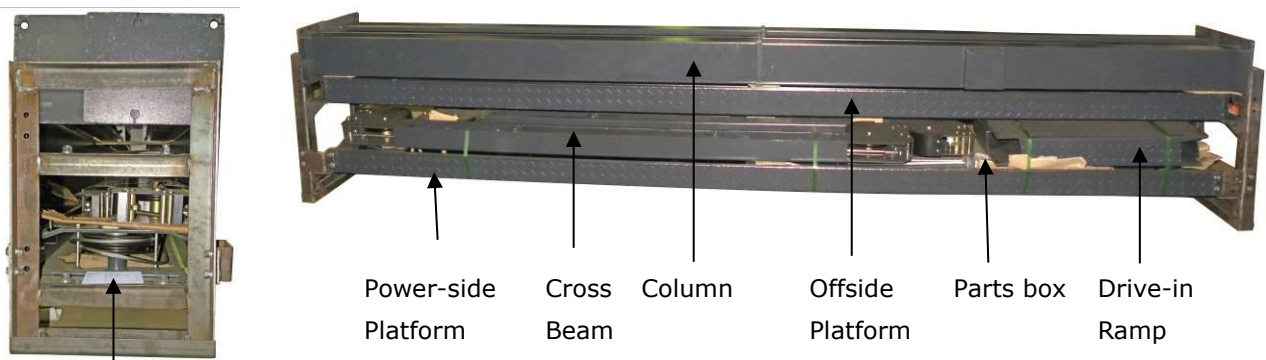

Fig. 6
2. Open the outer packing carefully, check the parts according to the shipment list. (See Fig. 6)